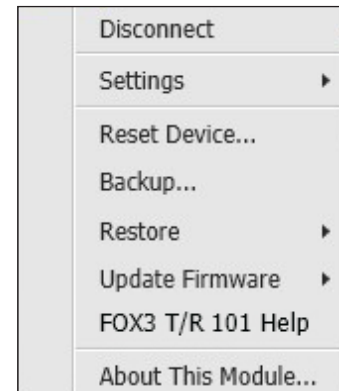

Figure 26. Device Menu
5. The FOX3 is password protected. Enter a user name (**user** or **admin**) in the **Username** field and the password in the **Password** field when prompted (see figure 26).